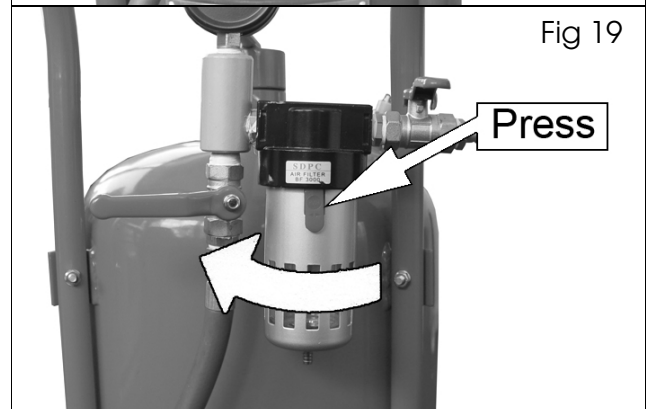

Fig 19
1. Press the release catch and unscrew the condensation chamber, see Fig 19.